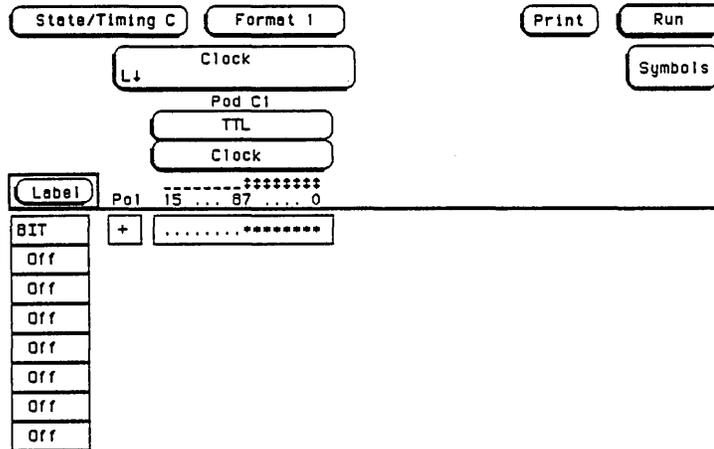

Figure 3-5. Format Screen
4. Assign appropriate clock, falling edge, and 8 channels of the pod under test to a label in the Format screen as shown in figure 3-5. Refer to steps a and b if unfamiliar with the menus.
- Assign appropriate clock, rising clock transition, and eight channels of the pod under test to the label in the Format screen as shown in previous test figure 3-5.
- Assign the falling edge of the appropriate clock and eight channels to label as in previous test figure 3-5.